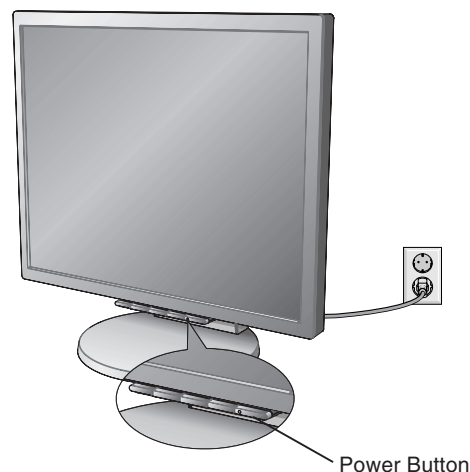

Figure E.1
10. Connect the power cord to the power outlet (**Figure E.1**).
11. Turn on the monitor with the front power button and the computer (**Figure E.1**).